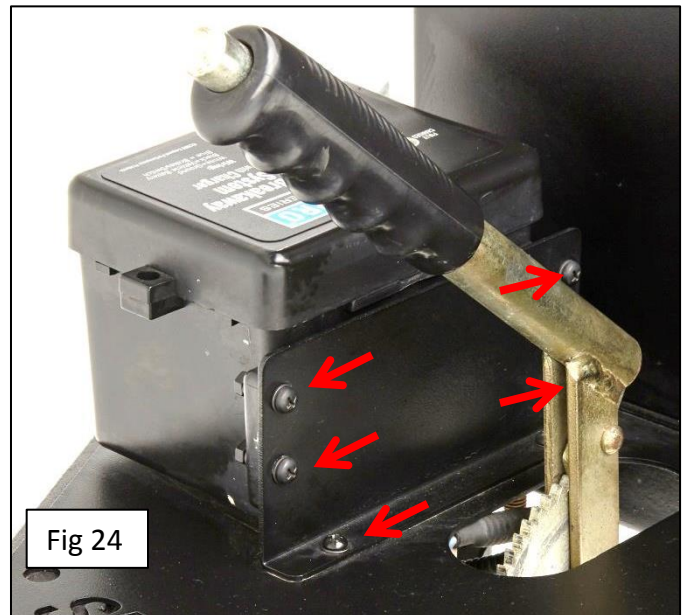

Fig 24
24. Install break away brake system. First mount the box mounting bracket to the tongue. Use M5 hardware. It may be easier to remove the tongue plate to access the hardware, then re-install tongue plate. Second, attach break away box to the bracket. You will want to run the wires thru the tongue plate before bolting the box to the bracket. Wire the brake away system into trailer wiring according to the instructions that are included with the break away system. Use the supplied deutsch connector. Fig 24. Leave tether switch loose till step 30.